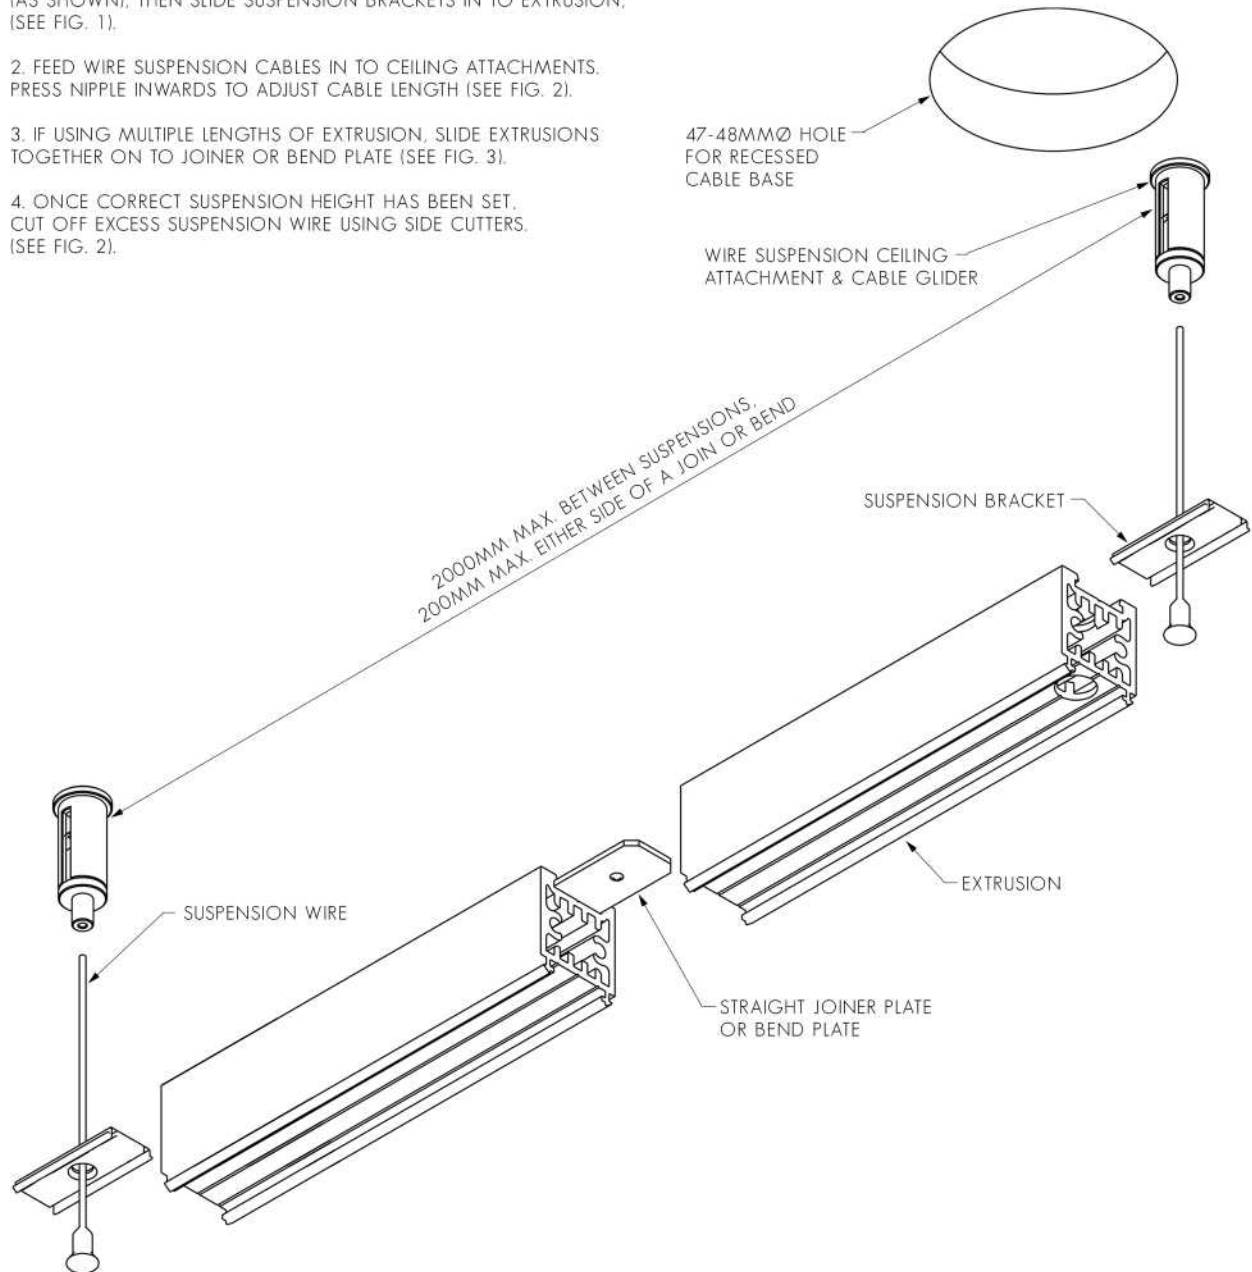

FIG. 1 - ENSURE EXTRUSION IS MOUNTED SECURELY
1. FEED WIRE SUSPENSION CABLES THROUGH MOUNTING CLIPS (AS SHOWN), THEN SLIDE SUSPENSION BRACKETS IN TO EXTRUSION. (SEE FIG. 1).